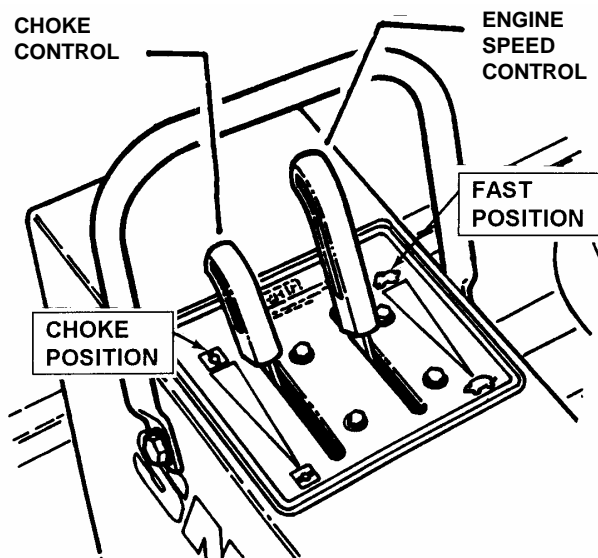

FIGURE 2.4
4. Move choke control forward to choke position to start a cold engine. See Figure 2.4.
5. Move engine speed control to the Rabbit "FAST" position. See Figure 2.4